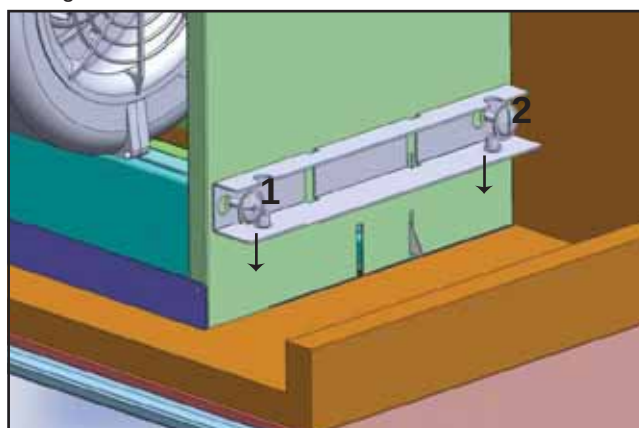

Fig.5
4) Secure upper brackets to left and right sides of hood body by using (2) 3/16 x 3/8" screws for each bracket. Fig.5. Make sure the (2) captive nut screw holes on the bracket are facing downward. Note: Due to limited workspace in 30" cabinets you will need to use a right angle or 2" long Philips head screwdriver.